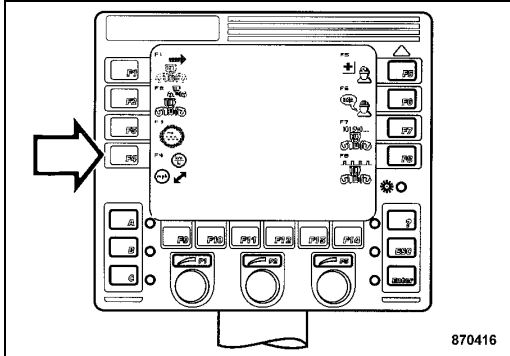

Fig. 80
- Press "F4" (Fig. 80) to change to the selection screen for "Metric or imperial units".